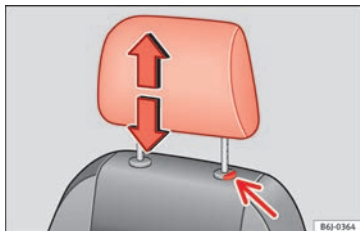

Fig. 124 Adjusting and removing the head restraints.
- Press the button »» Fig. 124 (arrow).